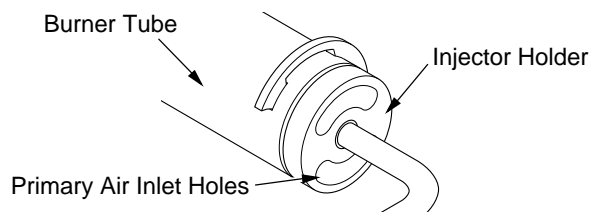

Figure 27 - Injector Holder On Outlet Burner Tube
2. Inspect burner, pilot, and primary air inlet holes on injector holder for dust and dirt (see Figure 27).